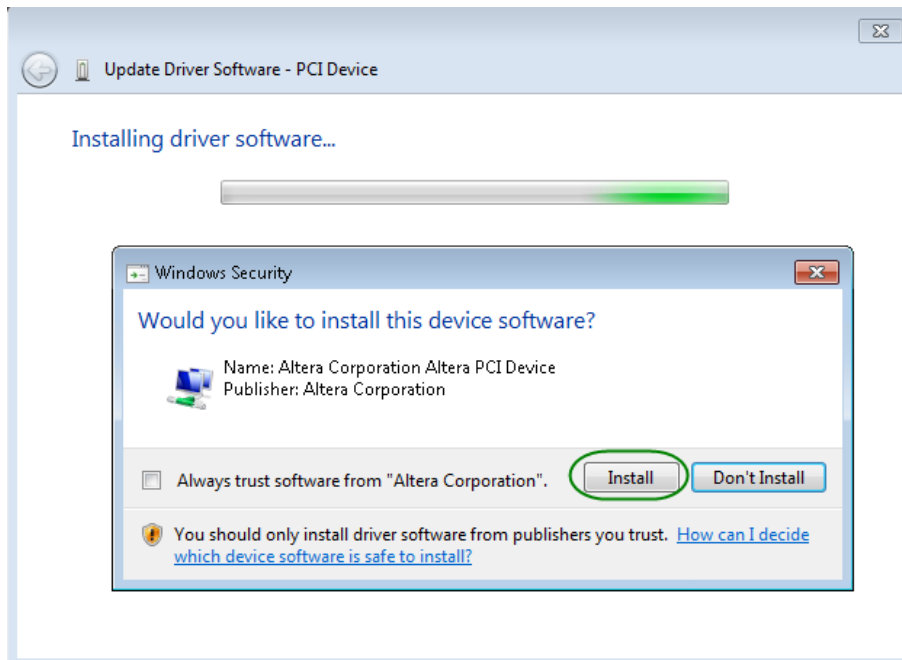

Figure 7-6 Click Install in the dialog of Windows Security
- When the **Windows Security** dialog appears, as shown **Figure 7-6**, click the **Install** button.